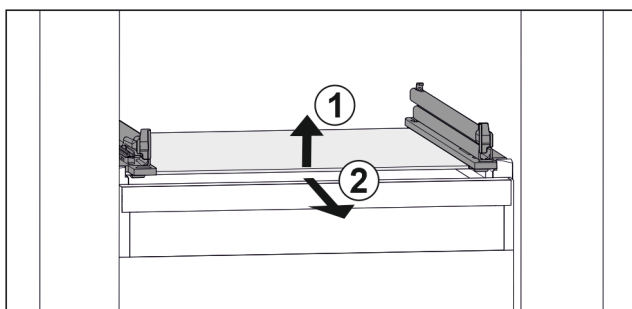

Fig. 51 Example illustration of glass shelf
- Lift glass shelf at the front. Fig. 51 (1)
- Take out glass shelf to the front. Fig. 51 (2)